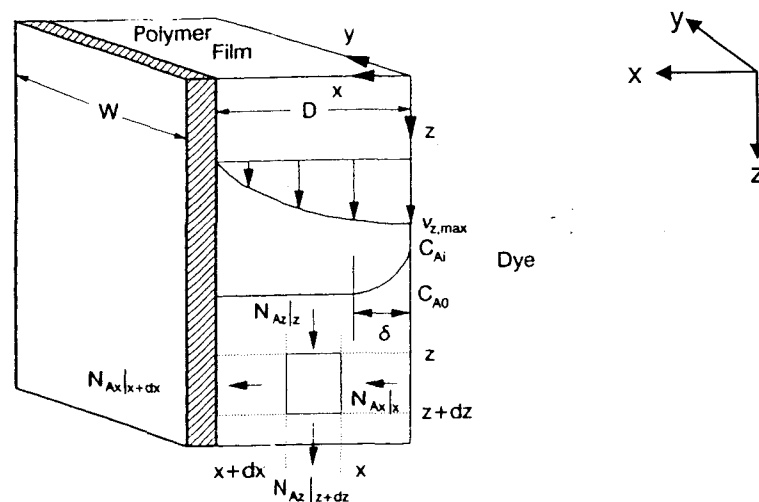

Figure 3 - Diffusion of dye into polymer film
3. Consider the sorption of a dye, A, into a thin polymer film as shown in Figure 3. Assume that the flow of the dye inside the polymer film is fully developed and laminar, the process is at steady-state conditions; the solubility of the dye in the polymer is low, and no chemical reaction is present. Derive the dye concentration profile in the polymer film as a function of time. (Given D is diffusion and W is width).